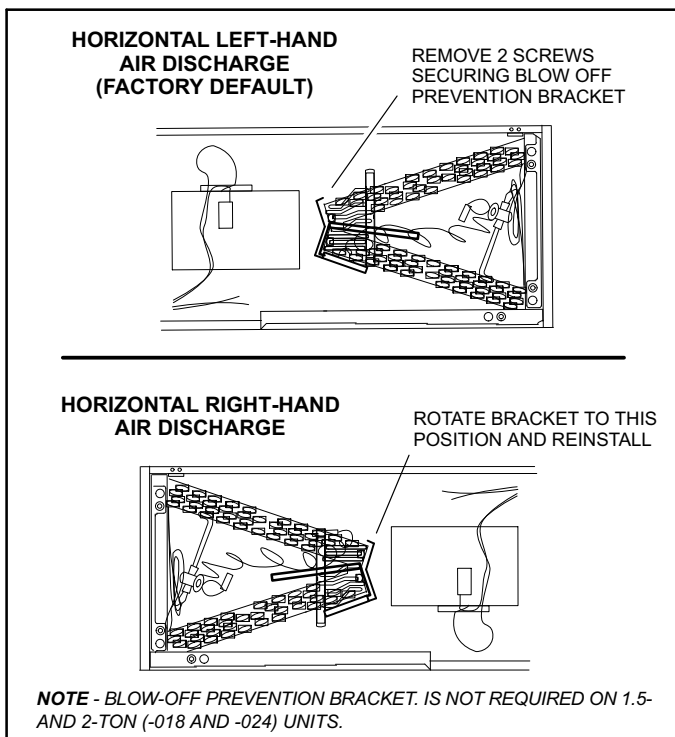

Figure 29. Blow-Off Prevention Plate
- Remove two screws securing the blow-off prevention bracket. Rotate the brackets 180° and reinstall using the same screws. See figure 29.